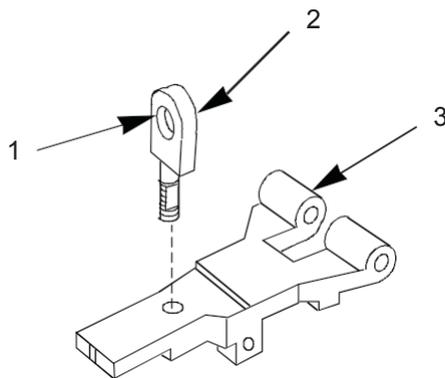

Figure 29. Peep Sight, Sight Leaf, Peep Hole.
40. Unscrew peep sight (Figure 29, Item 2) from sight leaf (Figure 29, Item 3) and visually inspect for bent shaft, damaged threads, burred thread flats and burrs on peep hole (Figure 29, Item 1). Replace peep sight (Figure 29, Item 2) if damaged. Visually inspect sight leaf (Figure 29, Item 3) for bends, cracks, or broken portions, and replace the entire sight leaf assembly if damaged.